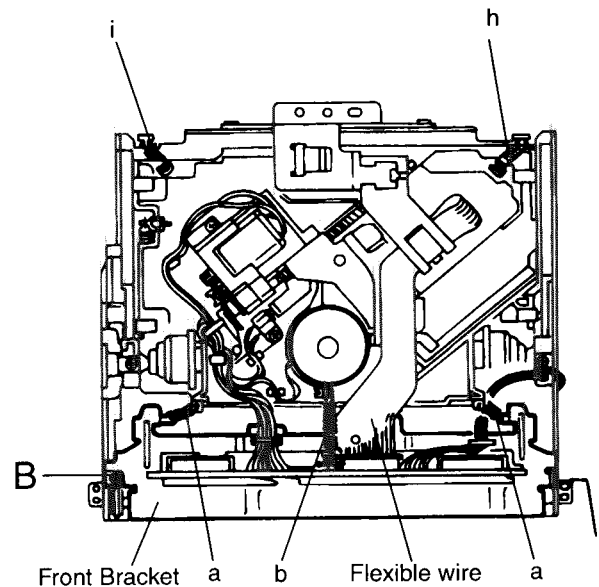
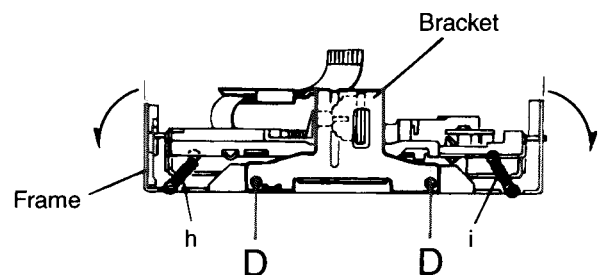
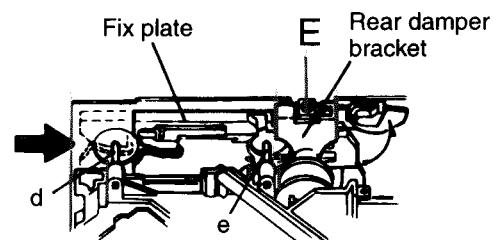
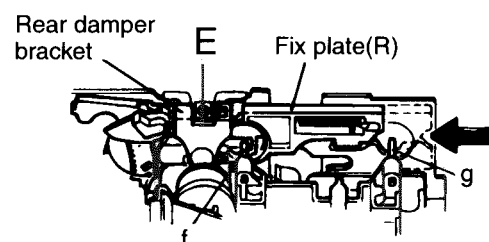

Fig.10
Fig.16
Fig.17
Fig.18
2. Remove the three springs a and b from behind the CD mechanism assembly (See Fig.10).
3. Disconnect the flexible wire connected to the connector on the CD mechanism control P.C.board (See Fig.10).
6. Remove the two screws B retaining the front bracket for fixing the CD mechanism control P. C. board (See Fig.10).
1. Remove the two screws D retaining the bracket for fixing the damper. (See Fig.16)
2. When shining the fix places on the right and left Sides respectively to the arrow direction, lower the entire CD mechanism. When the shafts (d, e, f and g) on both the right and left sides have been set free as shown in Fig.17 and Fig.18, then the assembly can be removed easily. Remove the two screws E retaining the rear damper bracket to make it easier to remove the damper from the rear damper bracket (See Fig.10, Fig.17 and Fig.18).
3. Remove the two springs h and i as shown in Fig.10 and Fig 16.